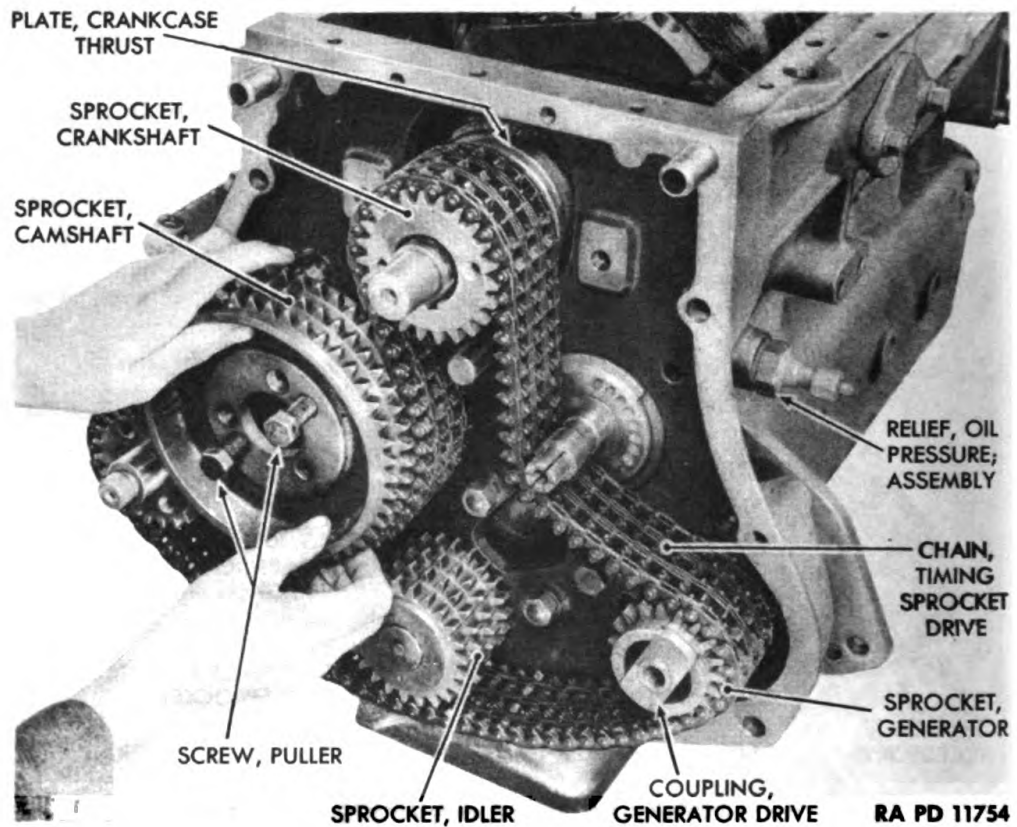

Figure 50—Removing Camshaft Sprocket
(e) Remove safety wire that locks the 3 cap screws which hold camshaft sprocket to the camshaft (fig. 49). Place a 6-inch wood block between crankshaft and crankcase to keep crankshaft from turning, then remove the 3 cap screws. Lift off camshaft sprocket. If the sprocket sticks, place 2 of the cap screws just removed in tapped holes in sprocket. Tighten down on screws alternately to remove sprocket (fig. 50).
(f) Lift off the timing sprocket drive chain (fig. 50).
(a) Lift off the generator sprocket with attached generator drive coupling assembly (fig. 50).
(a) Lift off idler sprocket (fig. 50).
(a) Pull crankshaft sprocket off crankshaft (fig. 50). If the sprocket sticks, insert two $\frac{3}{8}$ -inch puller screws in the tapped holes in sprocket. Tighten screws alternately and remove sprocket.
(b) Lift off crankshaft thrust plate by hand (fig. 50).
(1) Unscrew and remove oil pressure relief and gasket from side of the crankcase (fig. 50).